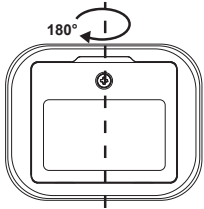

FIG. 2
- In the same location, rotate the equipment 180° (see the following FIG. 2), then press the **MODE** button, "CAL 2" flashes several times. After the "CAL 2" disappears, the calibration is completed and then the LCD will show the current angle in high-accuracy-display.